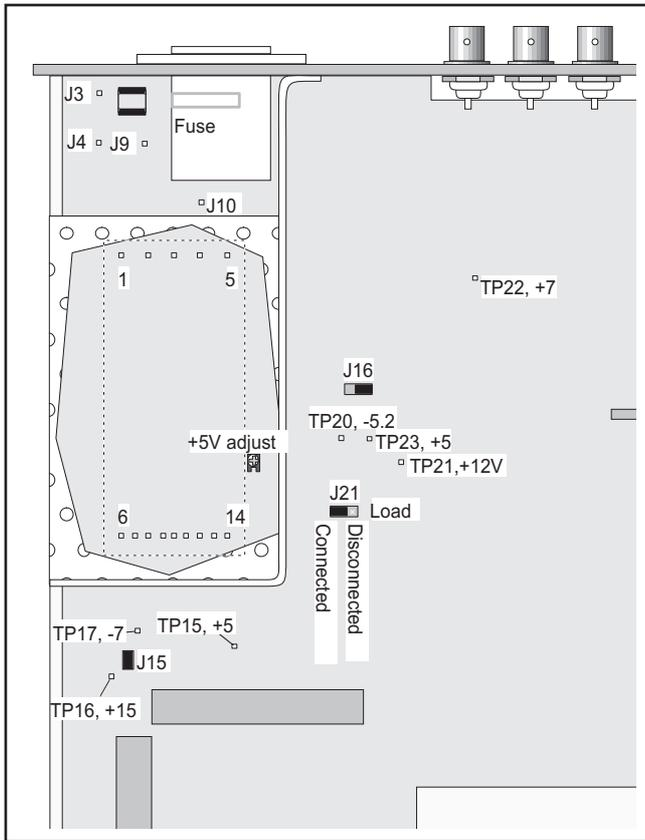

Fig. 5-2 Test points and trimmers for the power supply.
- Check that the voltage between J9 and J10 is in the range of 90 to 260 VAC, (see Fig. 5-2).